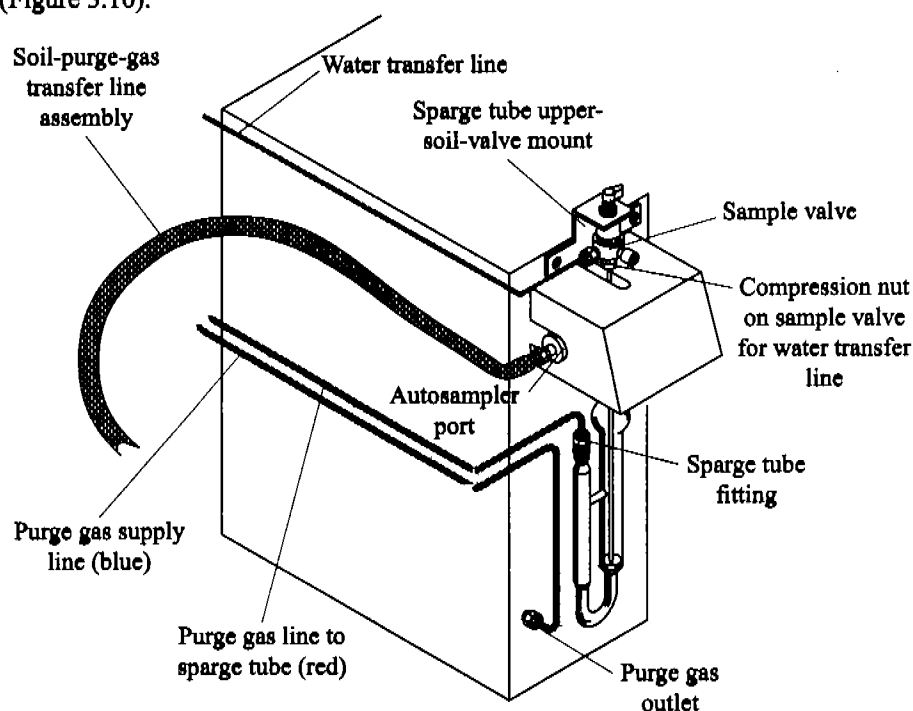

Figure 3.10. Connecting the Model 4552 to the Model 4560
- Using a 1/16" nut and ferrule, connect the blue PEEK tube to the purge gas outlet and the red PEEK tube to the sparge tube fitting on the front of the Model 4560 (Figure 3.10).